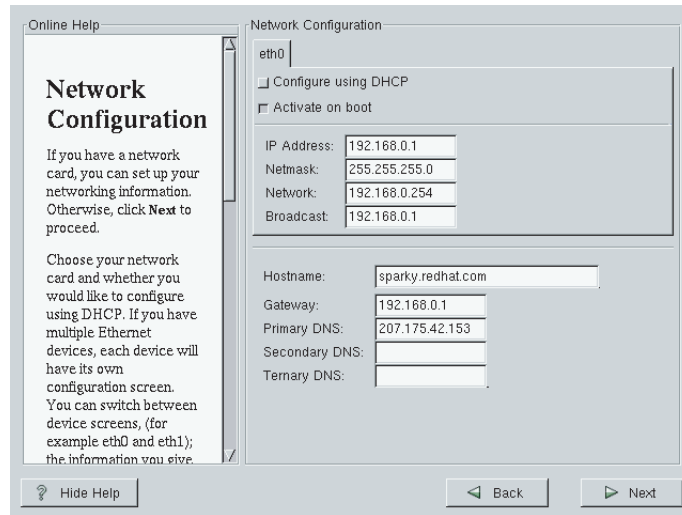

Figure 1-5 Network Configuration Window
18. Configure the Ethernet card or port that connects to the L2 controllers via DHCP protocol (refer to Figure 1-5):